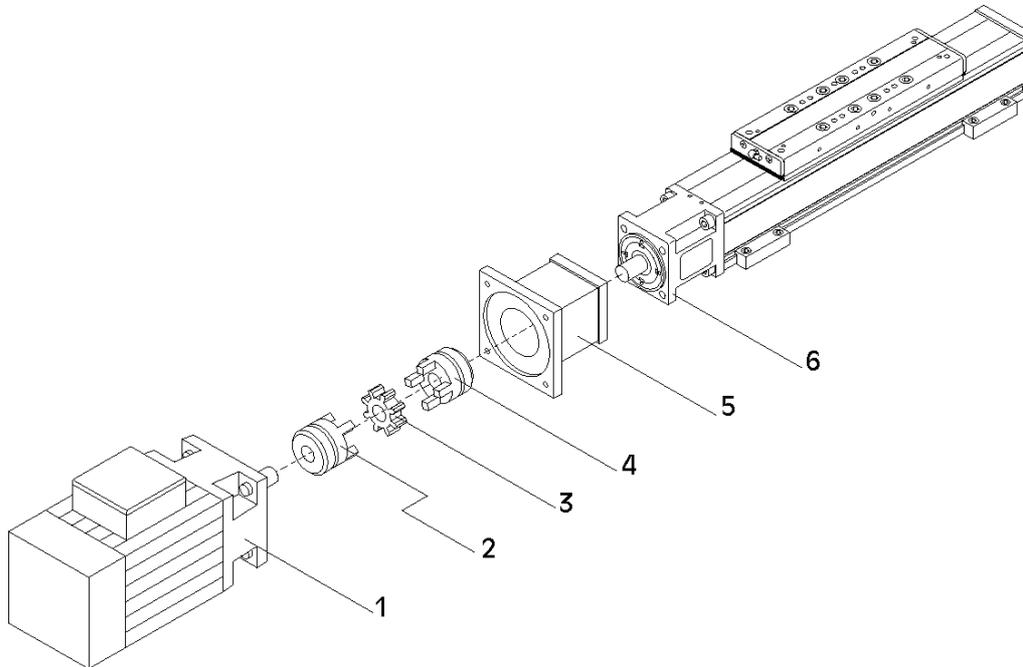

Fig. 13
1. **Fig. 13:** Place the motor (1) in mounting position beside the linear drive unit.